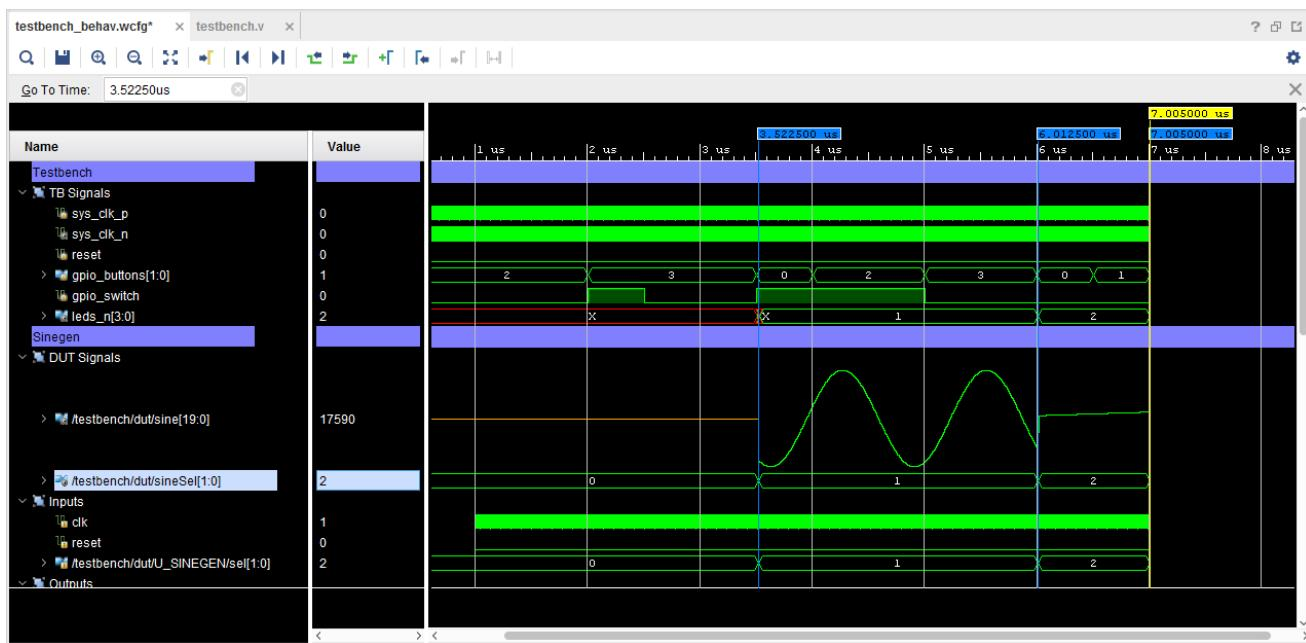

Figure 25: Using Markers
1. In the Waveform window select the `/testbench/dut/sineSel[1:0]` signal, as shown in Figure 25.
With markers identifying the transitions on `sineSel`, the Waveform window should look similar to Figure 25. As previously observed, the low frequency signals are incorrect when the `sineSel` signal value is 0.